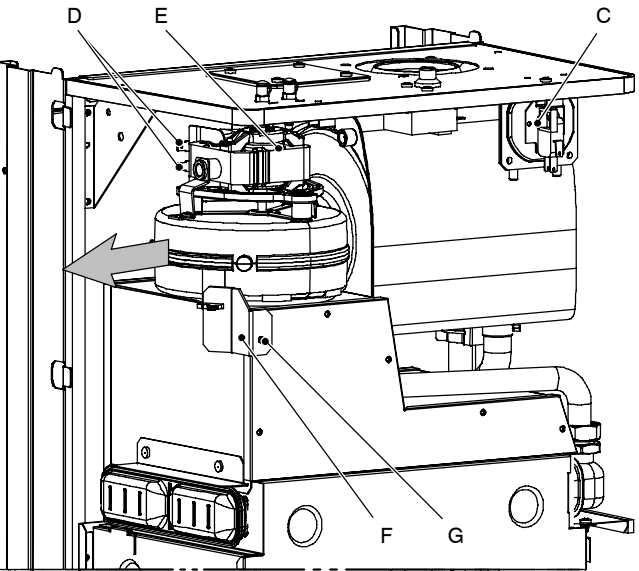

Fig. 72
- 4 Unscrew the screw *F* and remove the bracket *G* (Fig. 72).
- 5 Remove the Fan by sliding it towards left (see the arrow in Fig. 72).